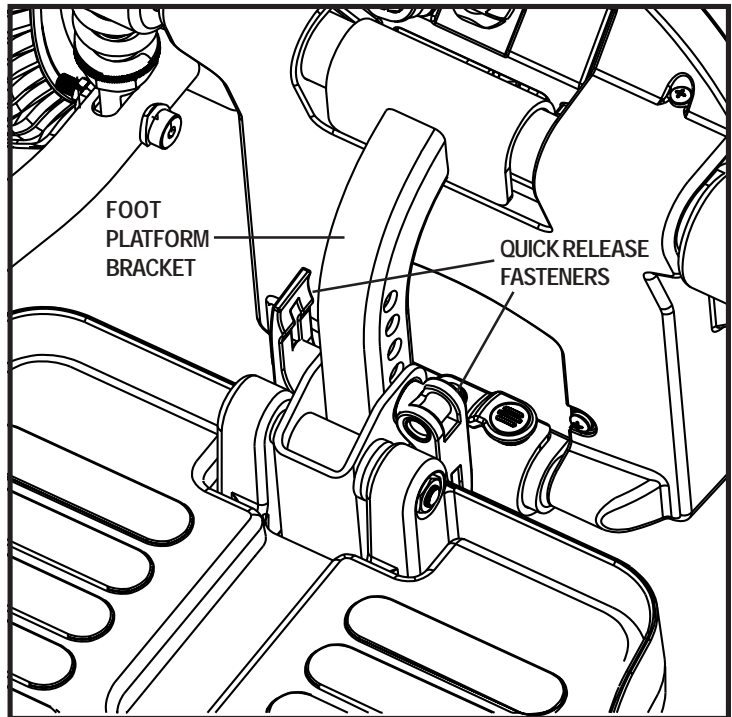
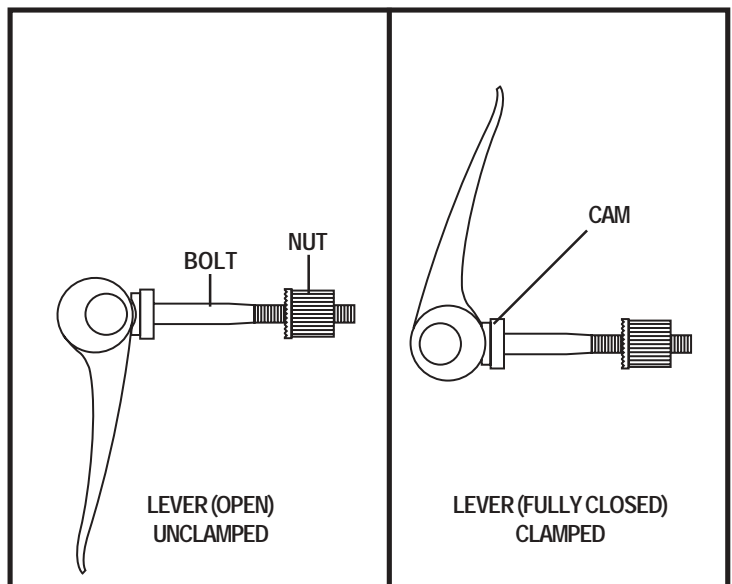

Figure 20. Foot Platform Adjustment
Figure 21. Quick Release Fastener Operation
1. Remove the quick release fasteners from the foot platform bracket. See figure 20.
The foot platform is attached to the power base with two quick release fasteners. See figure 20. Each quick release fastener consists of a bolt, a lever and a nut. See figure 21. The lever has a cam on the end that allows it to clamp into place. The quick release fastener has two states: clamped and unclamped. When the lever is open, the quick release fastener is unclamped. When the lever is closed, the quick release fastener is clamped.